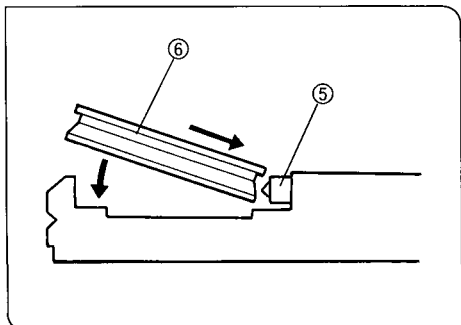

Fig. 23
4. While depressing the spring (5) on the inward side of the turret aperture with the side of the phase contrast ring slit mount (6), insert the phase contrast ring slit completely until it sits firmly on the bottom of the turret aperture. (Fig. 23)